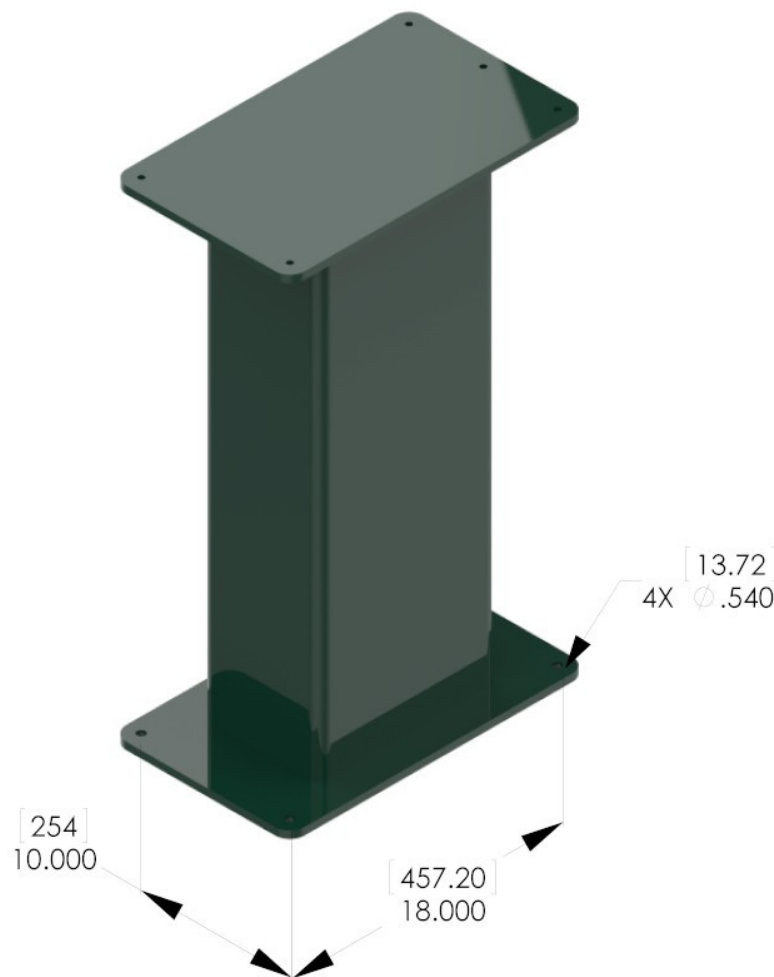

Figure 1. SBS80 Base Plate
The SBS82 Servo Belt Stand is secured by four (4) fasteners passing through mounting holes located in the Base Plate. The Base Plate mounting hole locations are shown in Figure 1. The SBS82 must be securely mounted to keep the unit from moving during operation. The unit must be mounted level to achieve the desired force output at the Contact Wheels. A spirit level can be placed on the top of the Belt Stand and shims can be inserted under the Base Plate as required.